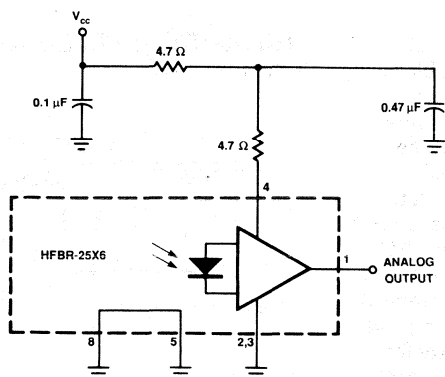

Figure 1. Recommended Power Supply Filter Circuit.
- The signal output is an emitter follower, which does not reject noise in the power supply. Consequently, the power supply must be filtered as shown in Figure 1.